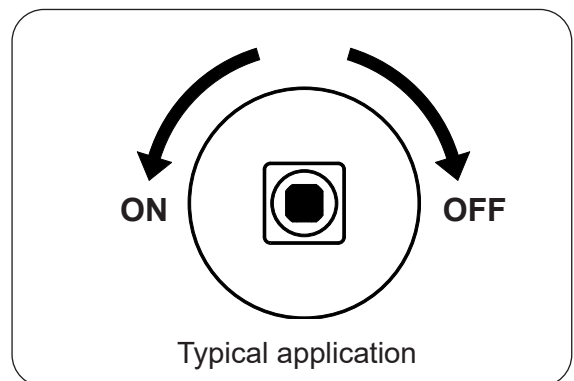

Fig. 14-2
4. **Once the flame is in position**, slowly turn the key valve counter-clockwise toward the **ON** position until it no longer rotates (see Fig. 14-2). Your burner should light.
To extinguish your gas burner, turn the key valve clockwise toward the **OFF** position until it no longer rotates (see Fig. 14-2). Be sure the key valve is turned fully off to avoid any gas leakage.